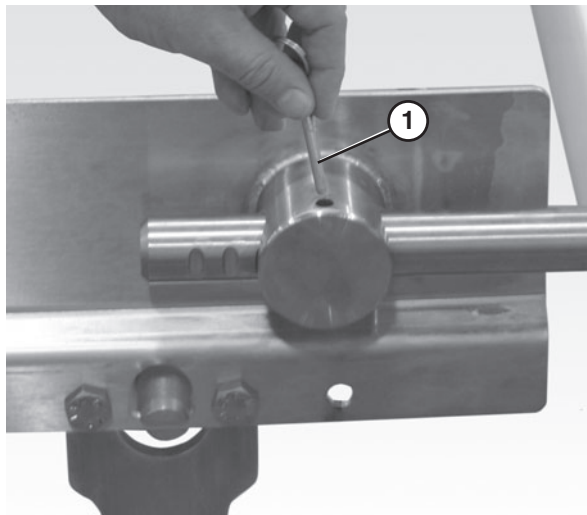

Figure 47
1. Remove the pull pins (**Figure 47, item 1**) on the tension end of the conveyor to release tension on the belt.